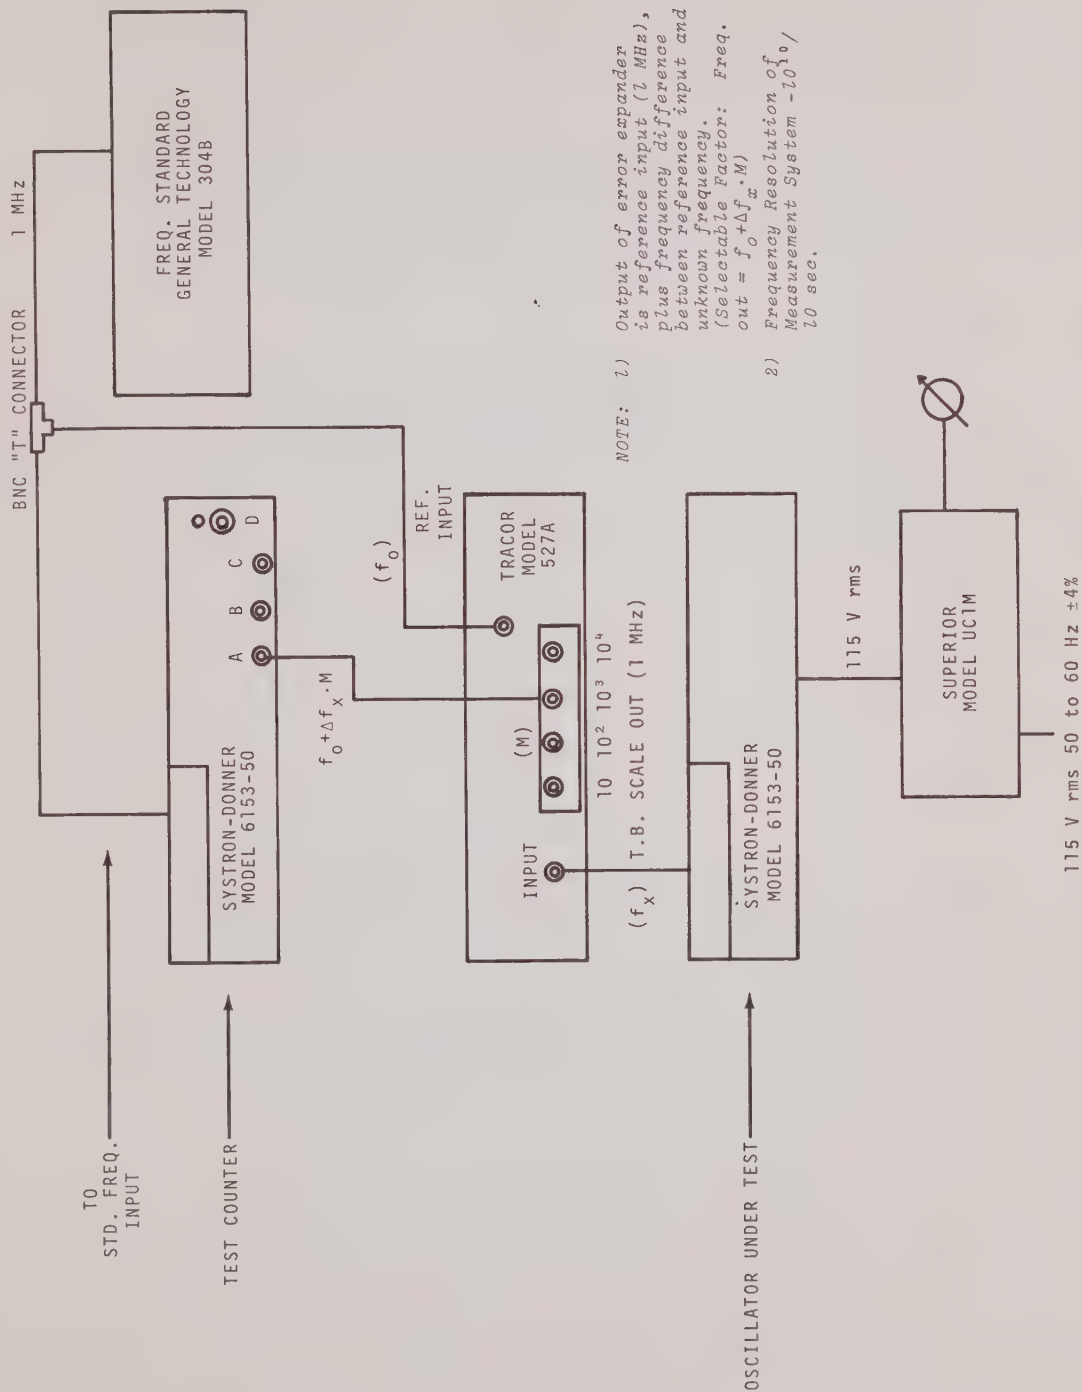

FIGURE 5.4 TIME BASE TEMPERATURE STABILITY CHECK.
- a) Connect measurement system as shown in Figure 5.4, set counter controls as follows: